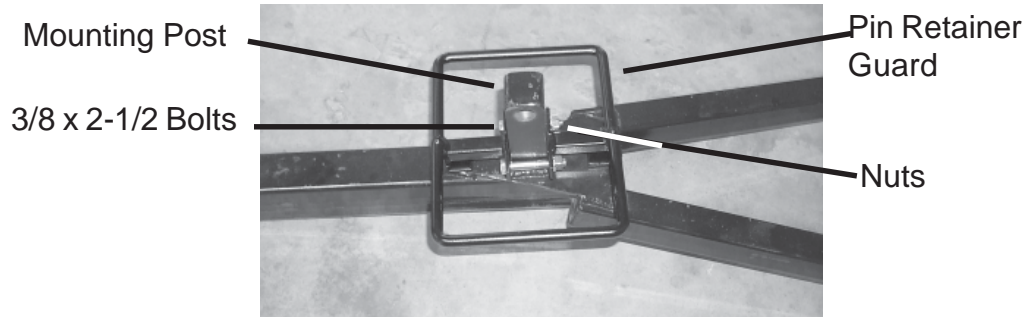

Figure 1
Install the pin retainer guard by positioning the guard around the base of the mounting post and securing it with (2) 3/8" x 2-1/2" bolts and nuts as shown in figure 1.